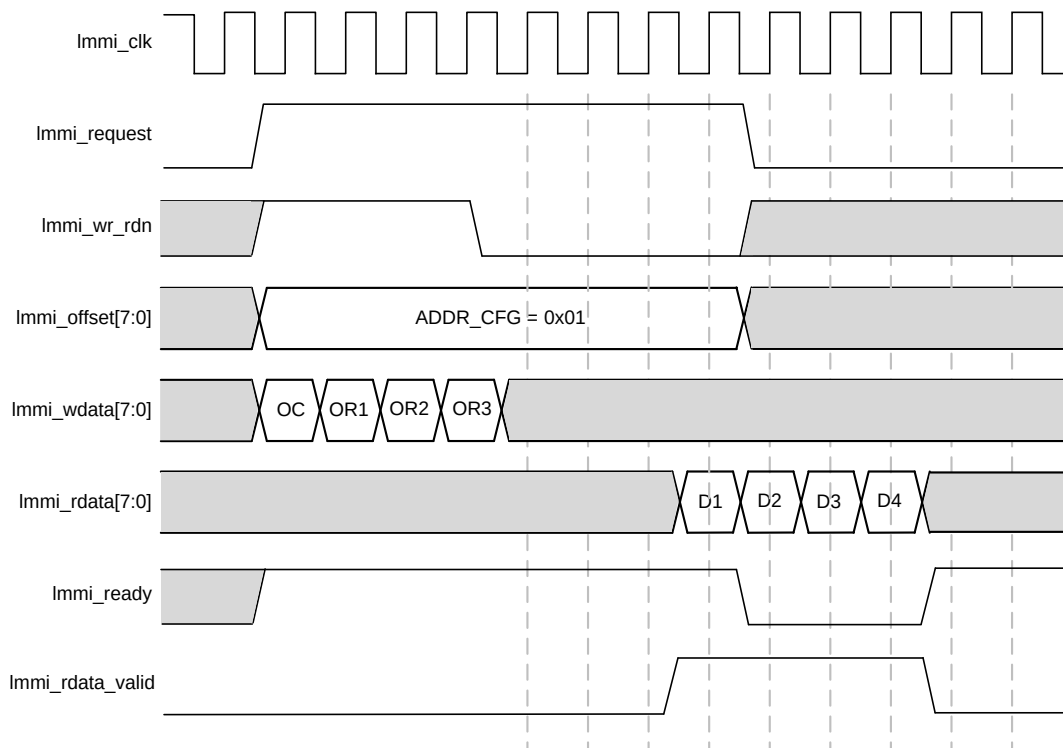
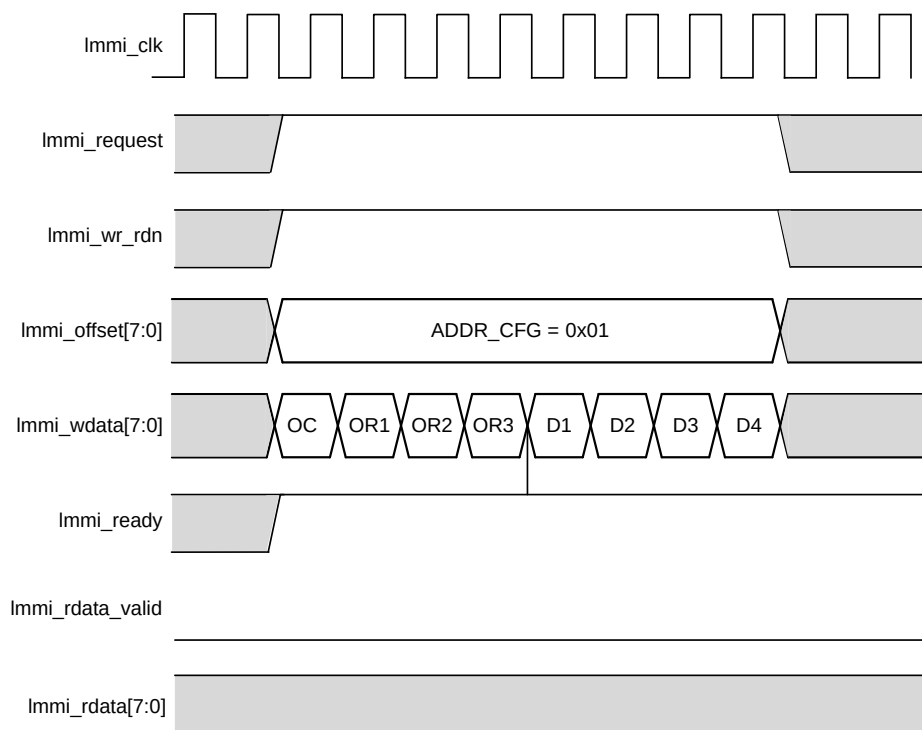
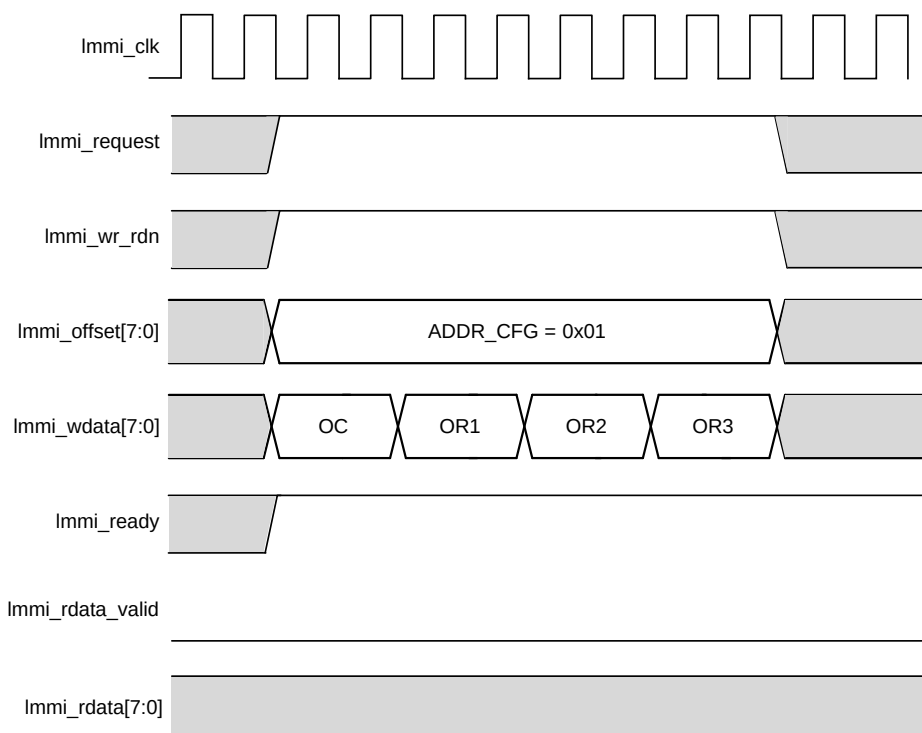

Figure D.3. LMMI Class A Commands Execution
Figure D.4. LMMI Class B Commands Execution
Figure D.5. LMMI Class C Commands Execution
The CONFIG_LMMI(A/B) primitive has a hardware assigned `Immi_offset` with `ADDR_CFG=0x01`. To execute slave configuration command, LMMI host should perform four back-to-back write transfers: 1 byte Opcode (OC), 3 bytes Operands, which are `OPERAND1 – OPERAND3` (`OR1 – OR3`), followed by the optional data bytes. The Class A command, Class B command, and Class C command execution are demonstrated in Figure D.3, Figure D.4, and Figure D.5.